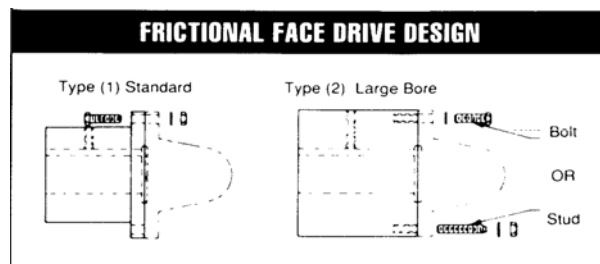

Figure 5
There are two types of mating flanges available for connecting the drive and driven unit shaft ends to the driveshaft. Type (1) SF standard flange accepts through bolting. Type (2) SLF large bore flange are drilled and threaded to accept fasteners or stud kit (see Figure 5). Stock bore companion flanges SF or SLF are bored with a plus 0.001" minus 0.000" tolerance and shall be a slip fit over mating shaft.